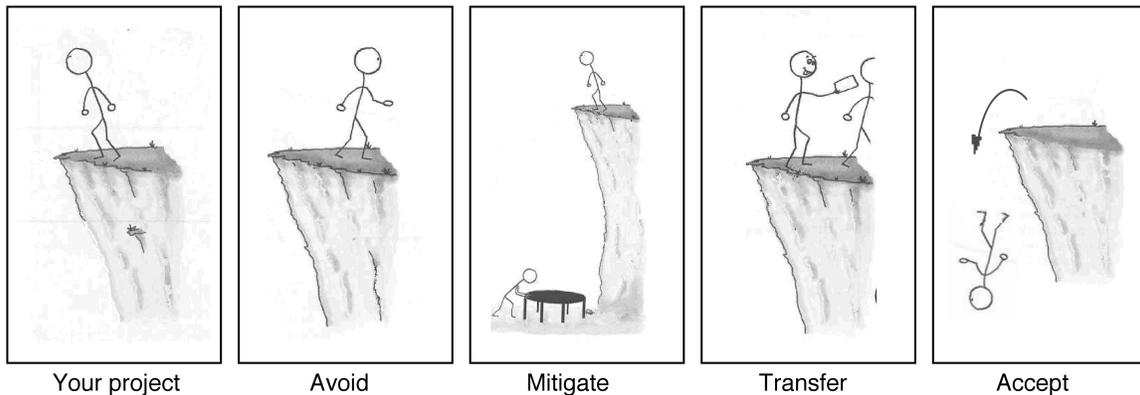

Figure 22: Potential ways to handle risk in a project.
If your project requires that you stand on the edge of a cliff, then there's a risk that you could fall (Figure 22). If it's very windy out or if the ground is slippery and uneven, then falling is more likely.
1. **Avoid:** The best thing that you can do with a risk is to avoid it. If you can prevent it from happening, it definitely won't hurt your project. The easiest way to avoid this risk is to walk away from the cliff (Figure 22), but that may not be an option on this project.
2. **Mitigate:** If you can't avoid the risk, you can mitigate it. This means taking some sort of action that will cause it to do as little damage to your project as possible (Figure 22).
3. **Transfer:** One effective way to deal with a risk is to pay someone else to accept it for you (Figure 22). The most common way to do this is to buy insurance.
4. **Accept:** When you can't avoid, mitigate, or transfer a risk, then you have to accept it (Figure 22). But even when you accept a risk, at least you've looked at the alternatives and you know what will happen if it occurs. If you can't avoid the risk, and there's nothing you can do to reduce its impact, then accepting it is your only choice.